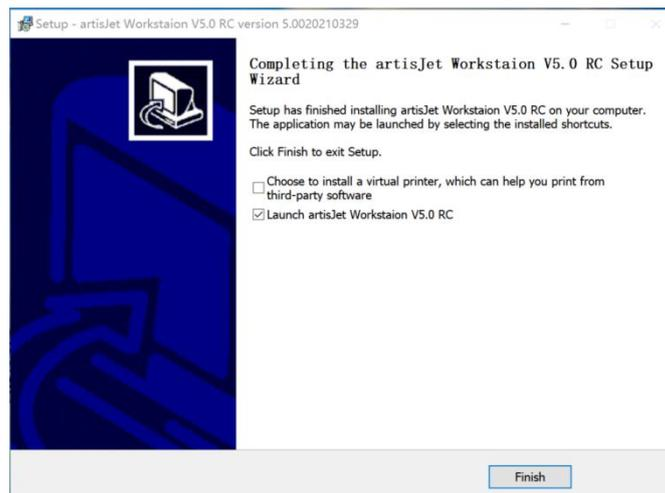

Fig. 5 – Complete the installation
**Step 4** – Click “Finish” to complete the installation process (Fig. 5). *Select the both check boxes on this page is recommended.*